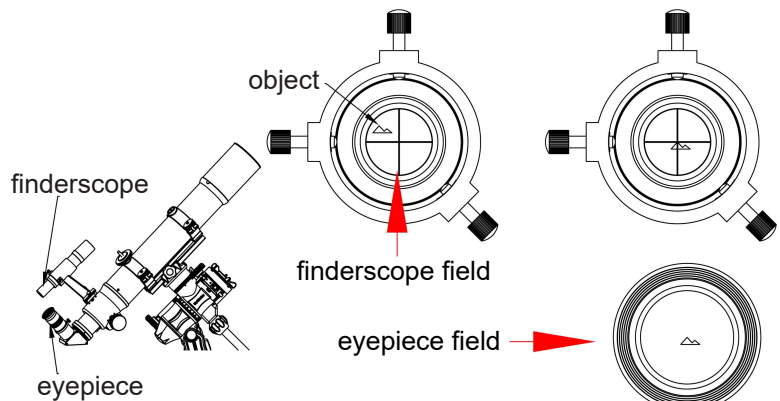

Fig.22
- For the 6x30 finderscope with spring loading, adjust only the two small screws (Fig.22)